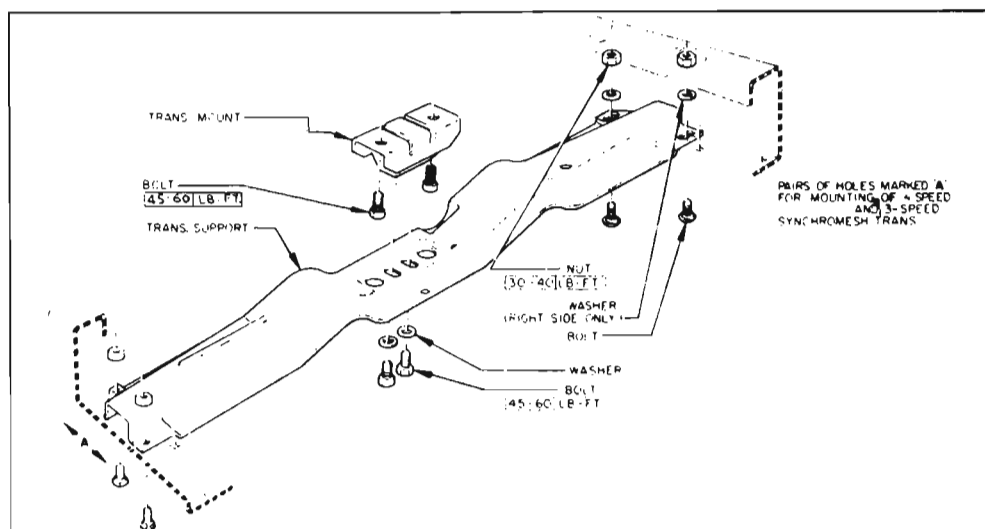

Figure 4-42—Transmission Mounting
8. Remove two bolts attaching transmission mounting pad to transmission support. Leave mounting pad bolted to transmission. See Figure 4-42.